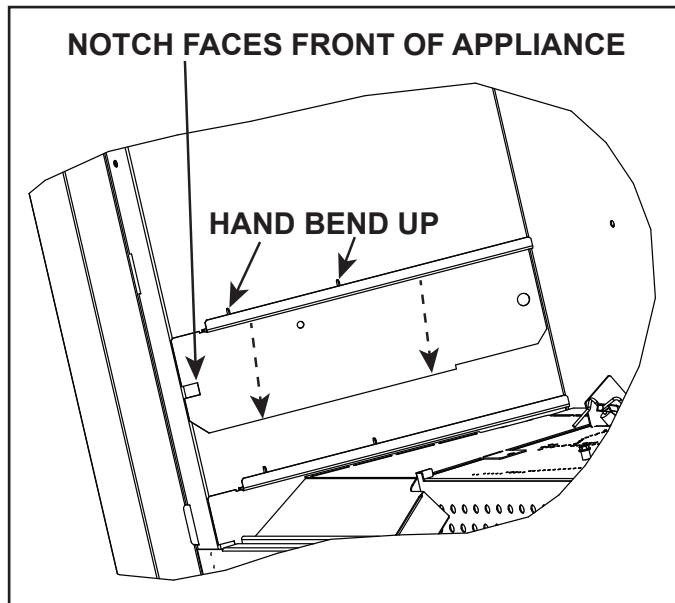

Figure 4 Install Lower Glass Bracket (Left Side Shown)
- Remove lower glass brackets from packaging and bend “up” hand bend features. See Figure 4. Install left and right lower glass brackets by installing them between the outer edges of the left and right basepans with the notch facing the front of the appliance. These pieces will fit tightly against the firebox. See Figure 4.